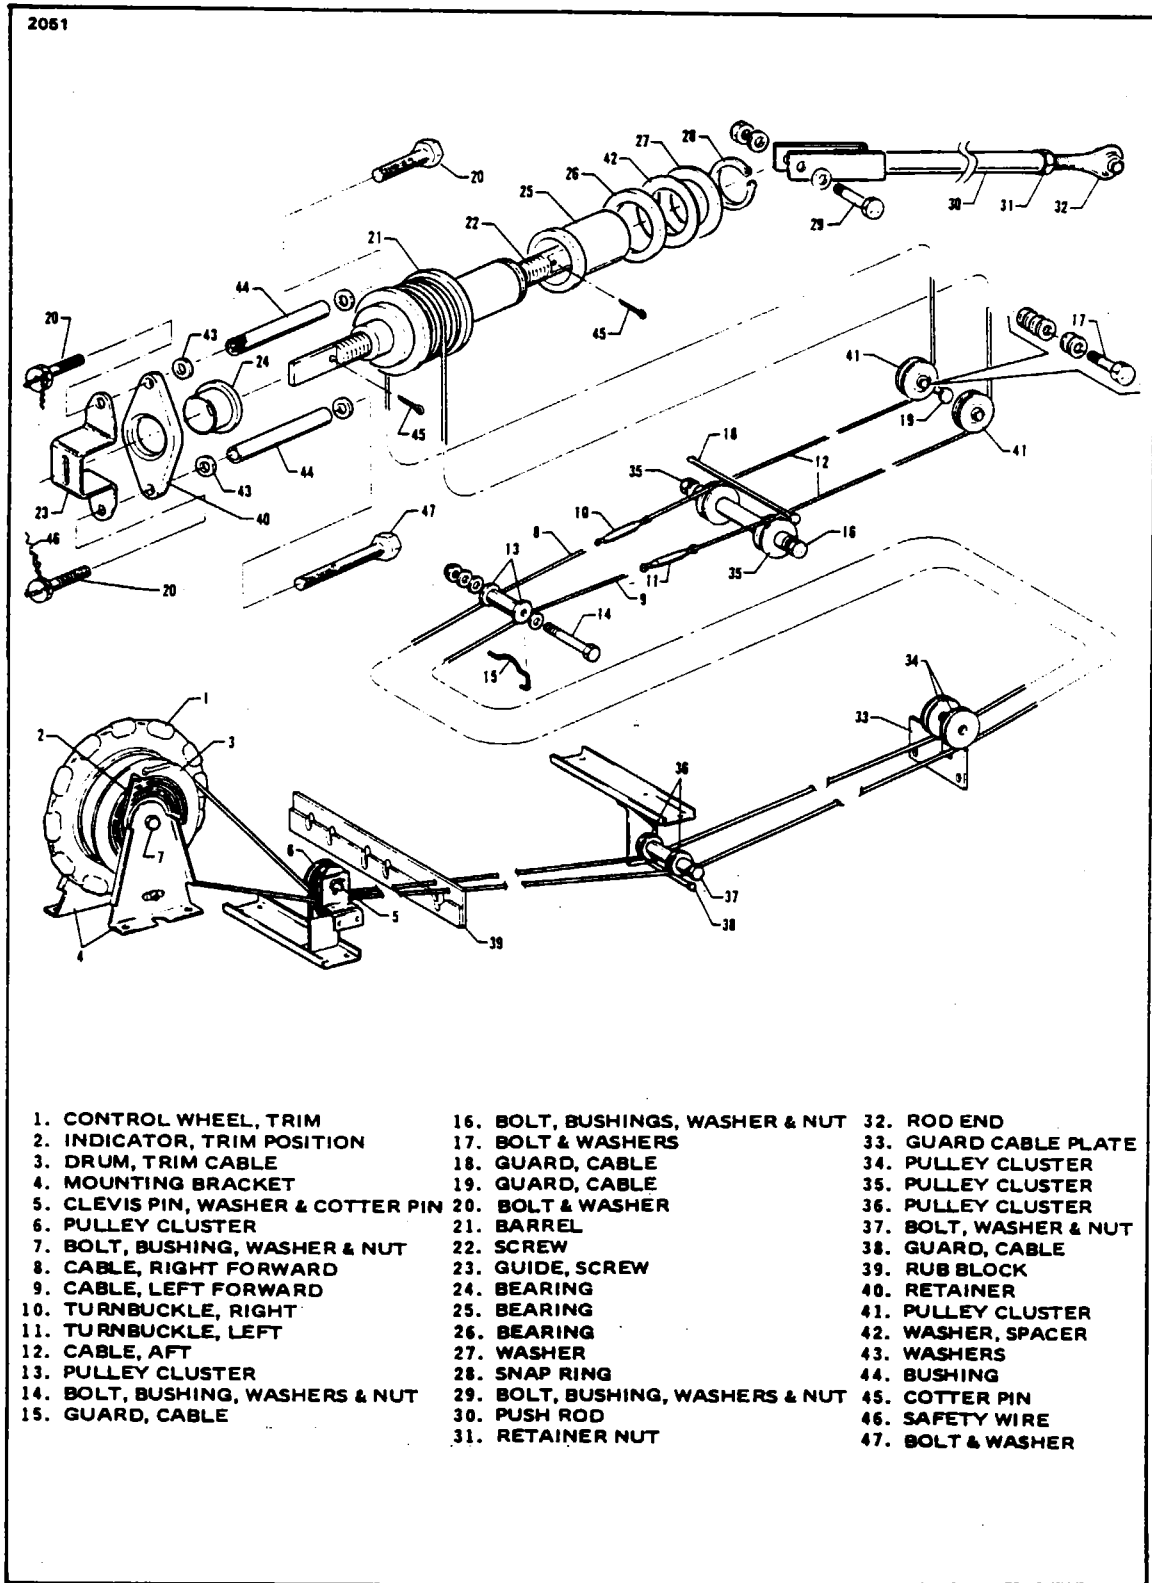
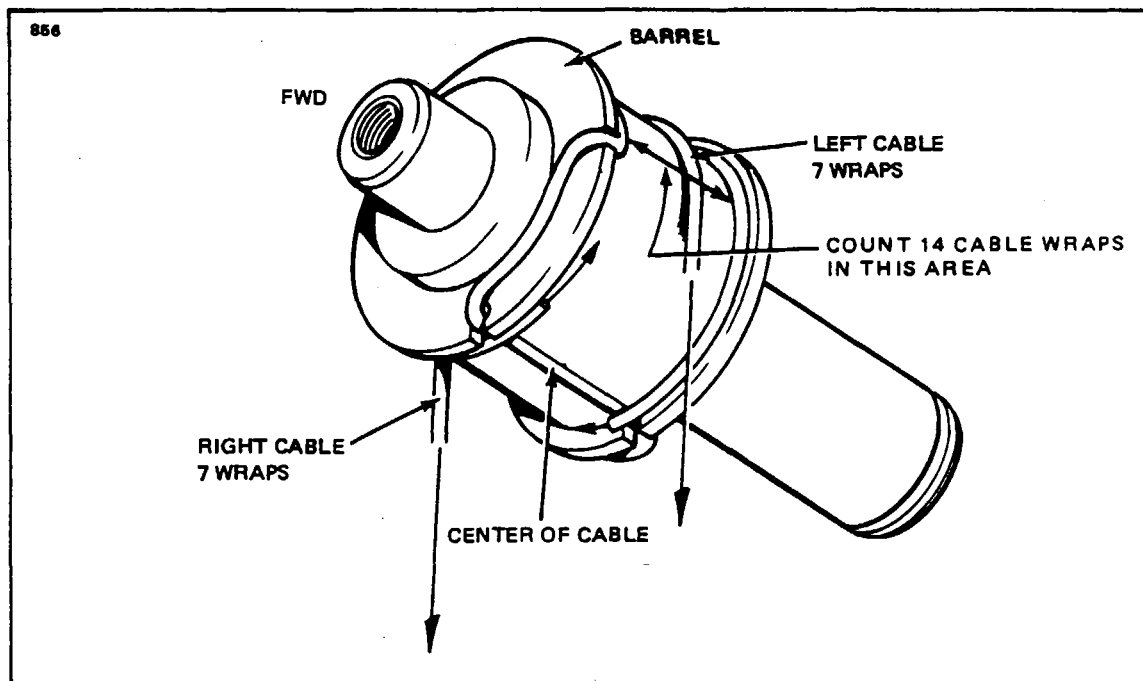

Figure 5-9. Stabilator Trim Controls
Figure 5-10. Wrapping Stabilator Trim Barrel
5-17. REMOVAL OF STABILATOR TRIM ASSEMBLY (FORWARD). (Refer to Figure 5-9.)
5-18. INSTALLATION OF STABILATOR TRIM ASSEMBLY (FORWARD). (Refer to Figure 5-9.)
5-19. REMOVAL OF STABILATOR TRIM CONTROLS (AFT). (Refer to Figure 5-9.)
5-20. INSTALLATION OF STABILATOR TRIM CONTROLS (AFT). (Refer to Figure 5-9.)
- a. Wrap the trim barrel (21) by first laying the center (as measured equally from each end to the center of the cable) of the trim cable (12) in the slot of the barrel. Bring the half of the cable to be used on the right side through the diagonal slot in the flange at the forward end of the barrel and wrap aft in a clockwise direction 7 wraps to the center of barrel. Bring the half of the cable to be used on the left side through the diagonal slot in the aft end of the barrel and wrap forward in a counterclockwise direction 7 wraps to the center of barrel. Count a total of 14 cable wraps on the top side of the barrel. (Refer to Figure 5-10.)
- b. Block the cable by clamping between two pieces of wood laid next to the wraps to prevent unwrapping. Fabricate block with a notch so hardware (20) can be installed. After installation of hardware safety wire the bolts.
- c. Lubricate the bearings (24, 25 and 26) and install barrel (21) per exploded view given in Figure 5-9. Use spacer washers (42) as required to give a maximum barrel end play of .0005 to .0015. Install the barrel using any combination of AN960-10, AN960-10L and AN960PD10L washers (43) to achieve free barrel rotation with trim cable rigged and tensioned.
5-21. RIGGING AND ADJUSTMENT OF STABILATOR TRIM. (Refer to Figure 5-9.)